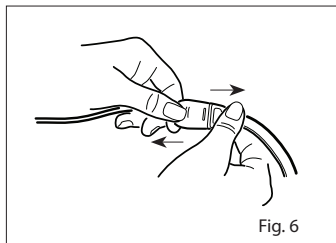

Fig. 6
1. Refer to Fig. 6. Pull firmly on the sensor connector to remove it from the patient cable.